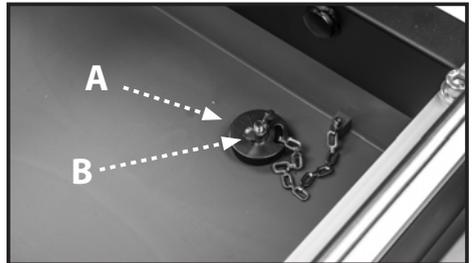

FIGURE 11
1. Ensure the drain plug (A, Fig. 11) is securely inserted into the drain and the locking wing nut (B, Fig. 11) is tight.